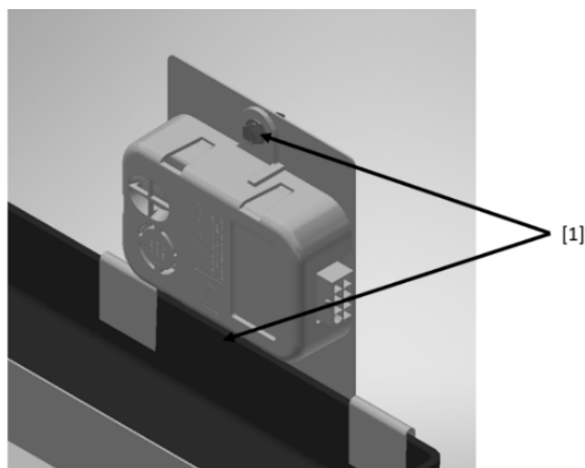

Figure 1 - Replacing Sensor to Bracket
- 3) Remove installed A2L sensor from bracket by removing two screws as shown in Figure 1. (use existing screws to install new sensor)
- 4) Attach new sensor to bracket using two existing screws. See Figure 1